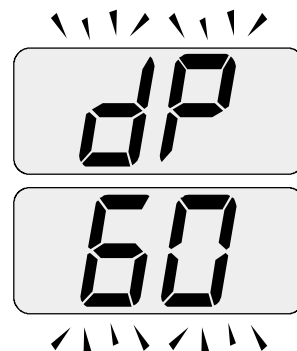

Fig. 11.9
- 20 Press further key A to vary again the output in chimney sweep mode: when the display shows the letters **dP** that alternate with the heating water temperature value (e.g.**60**), the "chimney sweep function" is at maximum output in domestic hot water mode" (Fig. 11.9);